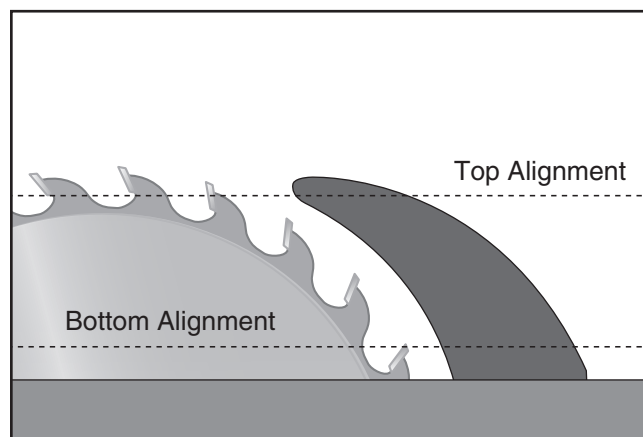

Figure 111. Checking top and bottom riving knife parallelism with blade.
4. Place the straightedge against the top and bottom of the blade and spreader/riving knife, as shown in **Figure 111**.